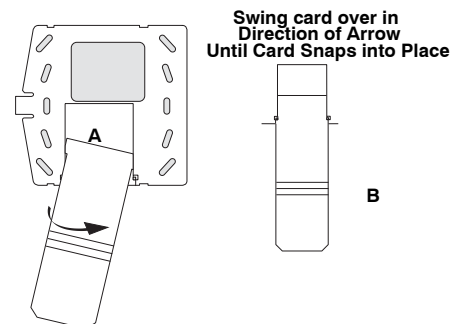

Figure 3. Inserting the Quick Guide Slide-Out Card
4. Looking at the back side of the mounting plate, turn it so the tab is on the left (see A in Figure 3) and position the Quick Guide slide-out card into the slots on back of the mounting plate as shown in Figure 3 (A). Make sure the card is unfolded and the “Zones” section is facing you.
5. Slide the card in the direction of the arrow in Figure 3 (A) until it snaps into the position shown in Figure 3 (B)